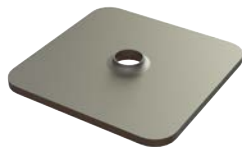
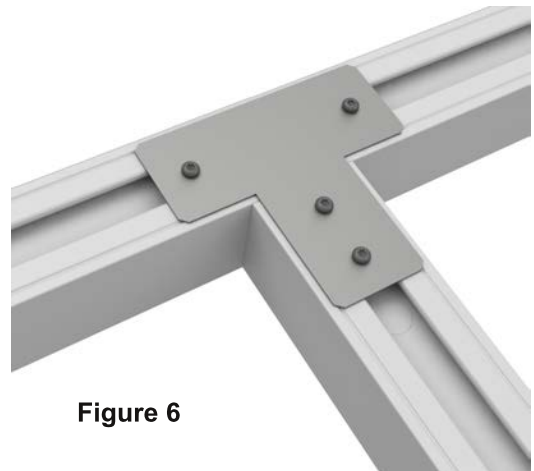
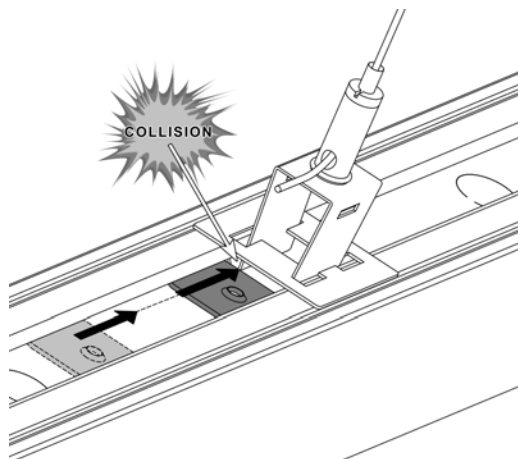

Figure 5
Figure 6
Figure 7
- ☑ Carefully check the Row by Row Analysis and the Trunk and Fixture Power Cable Layout drawing to find any L-, T-, and X-Corner Connectors that may be used and their location, for your particular installation. Remove the Nut Plates (see Figure 5) from the Corner Connectors you will be using (see Figure 6 for an example) and slide the Nut Plates onto the Trunks in their approximate location between the approximate location of the Mounting Brackets. Nut Plates will not slide under Mounting Brackets that are attached to the Trunk. See Figure 7.